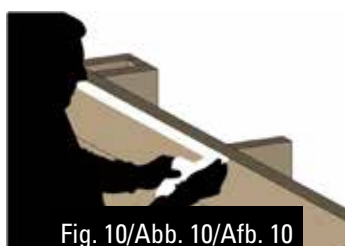

Fig. 10/Abb. 10/Afb. 10
- Stick the two-faced adhesive tape panel by panel, aligning it with the upper part of the top boards (figure 10). If the wood is slightly humid and dusty, it can be smoothened using sandpaper to facilitate adherence.